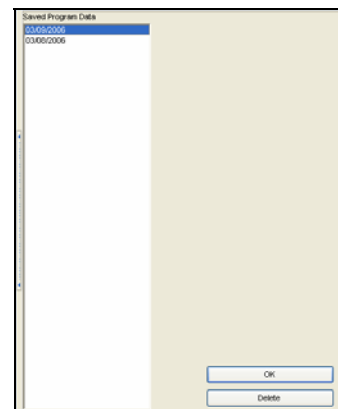

Figure 16.1.4D
3. Select the most recent date in the “Saved Program Data” window by clicking on it (Figure 16.1.4D).